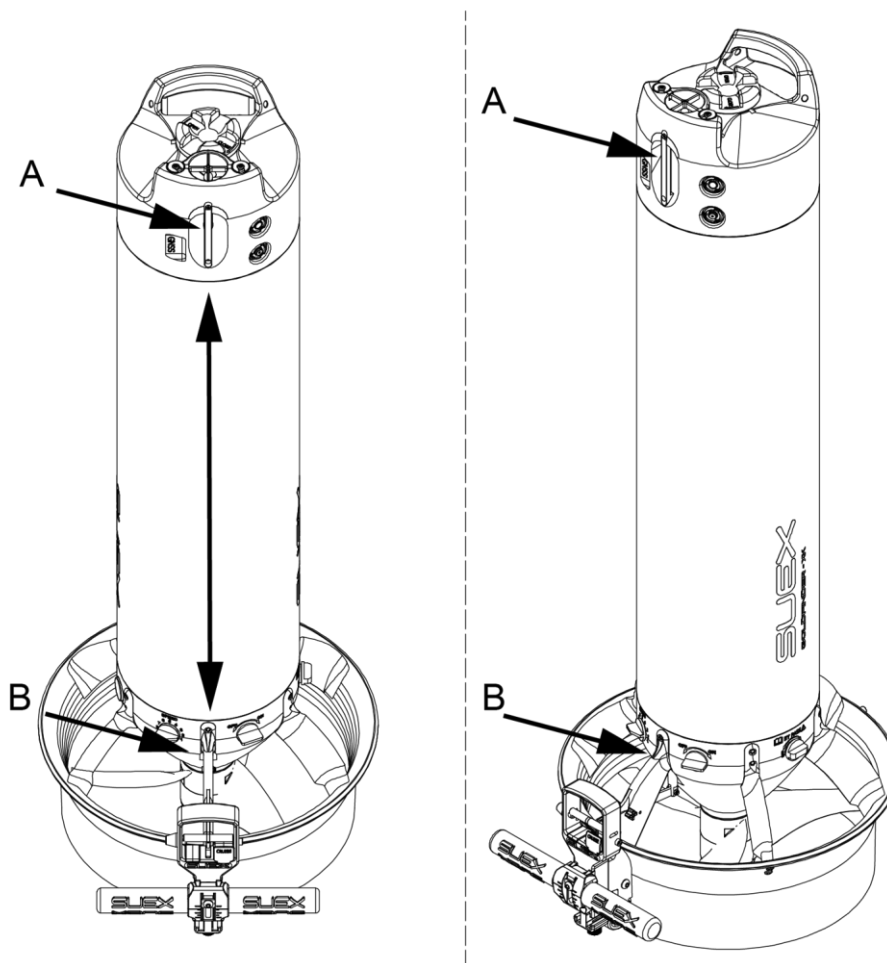

Fig 10 - Alignment nosecone - spoke
- Make sure to ALIGN the VERTICAL BAR (A - **Fig 10 - a pag. 12**) of the SINAPSI nose with the scooter SPOKE with trigger (B);
- Make sure to **ALIGN** the vertical bar (A - **Fig 10 - a pag. 12**) of the nosecone with the SPOKE with trigger (B) of the scooter;
Check to have aligned the vertical bar (A - **Fig 10 - a pag. 12**) of the nosecone with the SPOKE with trigger (B) of the scooter;